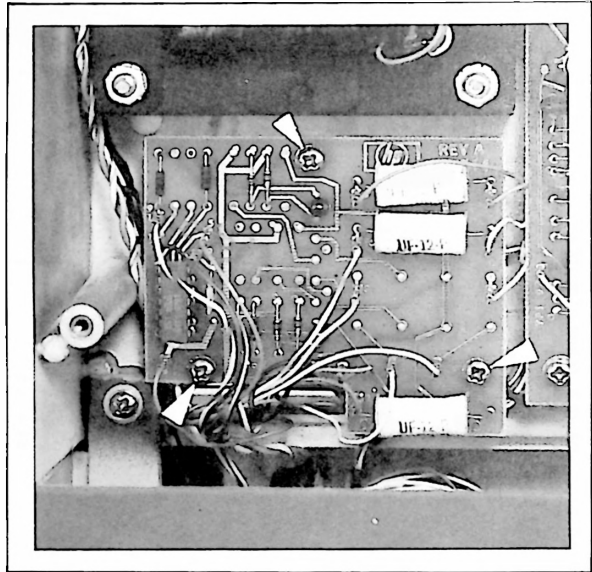

Figure 2-2. TTL Remote Control Installation
b. Install TTL Remote Control Board, Part Number 07044-60300 (7044A) or 07045-60120 (7045A) in provided space in left extreme corner (3 screws). See Figure 2-2.